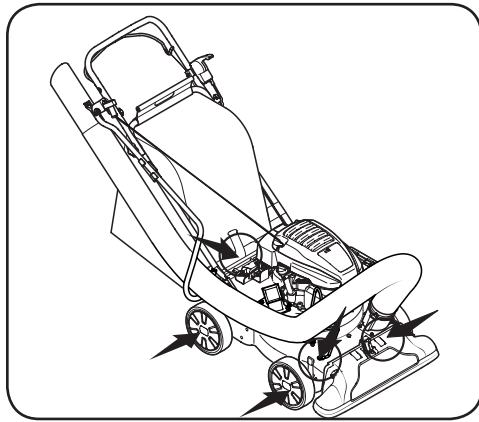

Figure 7-1
4. Lubricate the nozzle/hose vac lever on top of the nozzle once a season with light oil. See Figure 7-1.